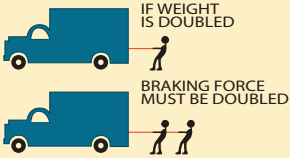

Figure 1
- 2 Weight (GVW).** A heavy vehicle, even though it has better traction, needs more time and distance to stop. When the weight is doubled, the amount of force needed to stop the vehicle is doubled, and it will take about twice as long for that vehicle to stop (Figure 1 - page 42).